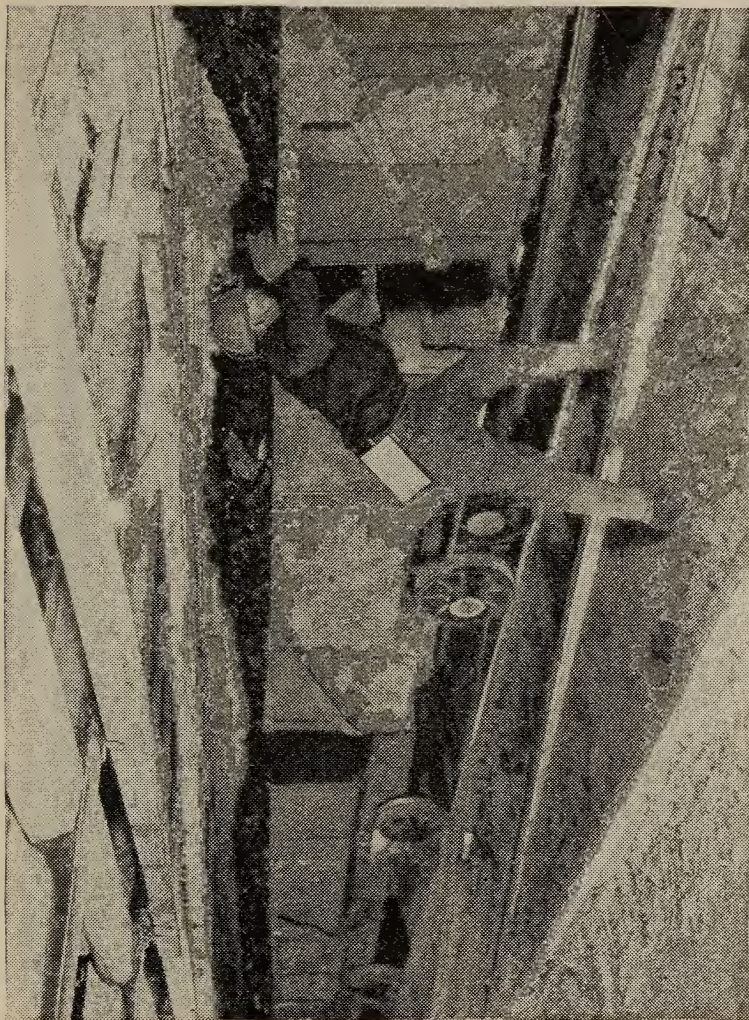

FIGURE 22.—For his own safety, a brakeman should keep in the clear when coupling cars.
- A. The cars should not be in motion and the brakeman should stay on the clearance side only and avoid stepping between the bumpers. (See fig. 22.)